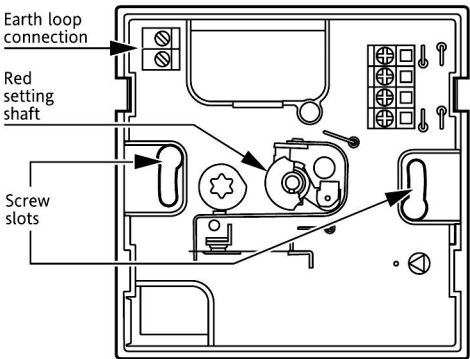

Fig 4
The RTS8 is double insulated and does not require an earth, if there are existing earth wires that need to be connected, use the Earth loop connection (Fig 4).
- Turn red setting shaft until switch contact opens (see Fig 4)